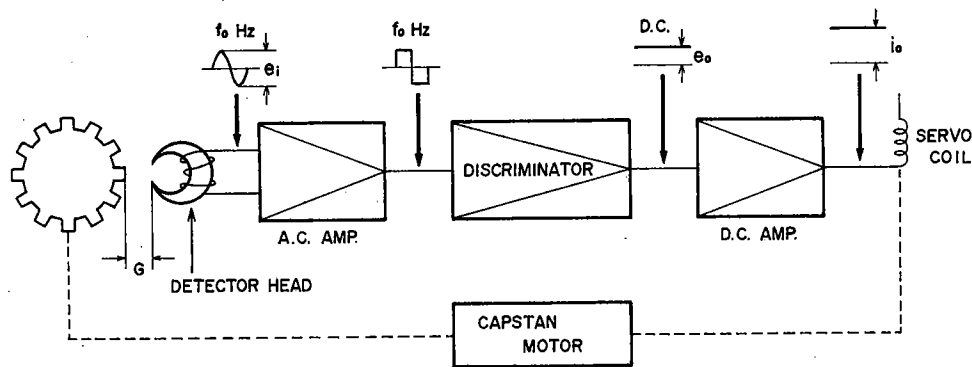

Fig. 34
1. The detector head core is comprised of a permanent magnet, and the gear installed on the motor, by magnet, and the gear installed on the motor, by the magnetic flux of the detector head core. Accordingly, the detector head coil works in the same way and generates A.C. Voltage (becomes the detector signal described below). When this detector signal voltage (e_i) becomes detector signal frequency (f_o), this adjusts the capstan motor revolutions proportionately. (See Figs. 34 & 35)
2. When the detector signal voltage generated from the detector head is about 3 mV (at 7-1/2 ips), because the level is low, the perpendicular (up and down) waveform is amplified by the A.C. Amplifier until the waveform is clipped. (See Fig. 34)